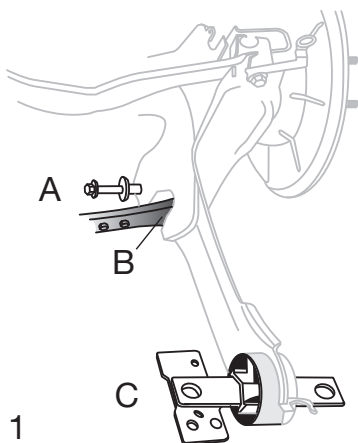

Fig 1
- Remove lower shock absorber mounting bolt (A), Fig 1
- Remove lower outer track control arm fixing as shown (B)
- Remove the trailing arm bush mounting as shown (C)
- Fit the bush tool with the force screw hex (8) facing to the outside of the vehicle.